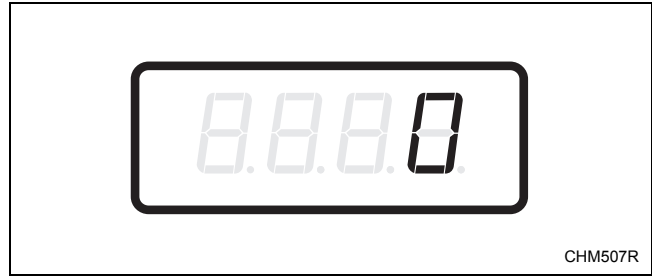

Figure 30
4. When “CnP1” appears in the display, press the START (enter) keypad. There are five digits in the Cycle Modifier Medium Vend Price Adder. The fifth digit will appear in the display and will flash for one (1) second on, one (1) second off. Refer to *Figure 30*.